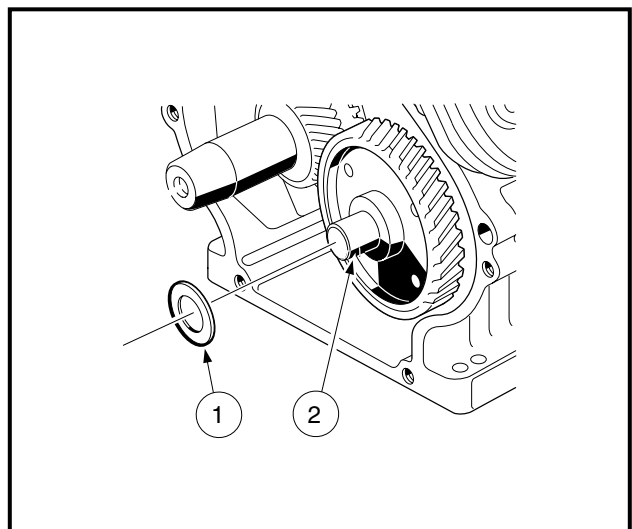

Figure 13-105 Install Shim on Camshaft
5. Install the shim (1) on the camshaft (2) (**Figure 13-105, Page 13-47**).